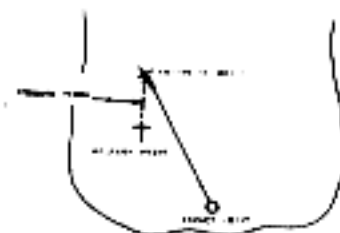

Figure 8-15. $D = KAV$
5. Forward throw must also be calculated when using the $D = KAV$ Formula. Forward throw is the lateral distance covered by the jumper or bundle from the time he or it leaves the aircraft until the time the parachute is fully deployed. Forward throw for Army aircraft is calculated by taking 1/2 the speed of the aircraft. To compensate for forward throw walk on the back azimuth of the drop heading half the speed of the aircraft in meters (figure 8-15).